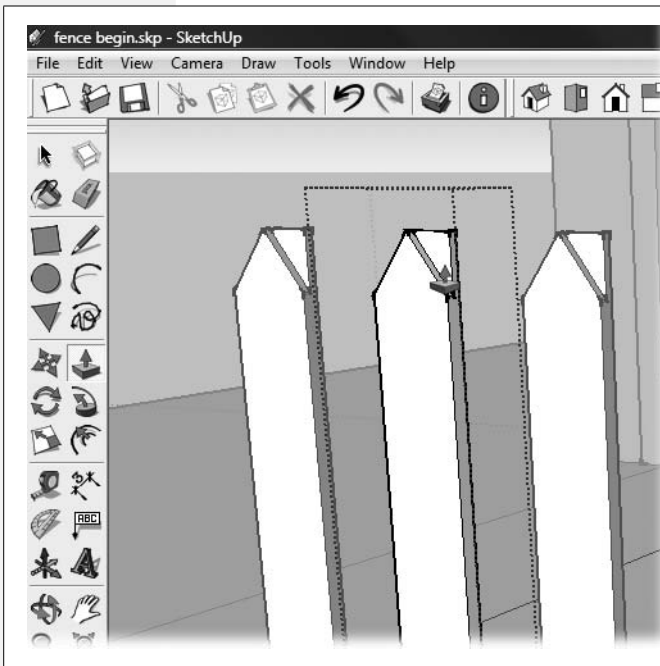

Figure 5-18:
7. Use Push/Pull to push away the excess corners, as shown in Figure 5-18.